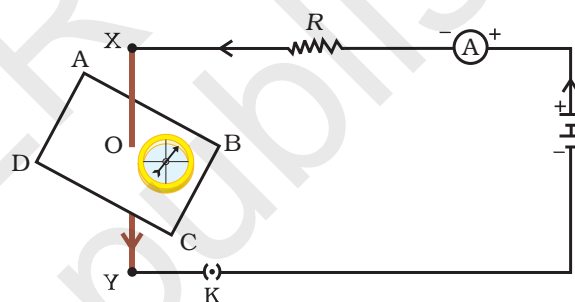

Figure 13.1
- Take a straight thick copper wire and place it between the points X and Y in an electric circuit, as shown in Fig. 13.1. The wire XY is kept perpendicular to the plane of paper.